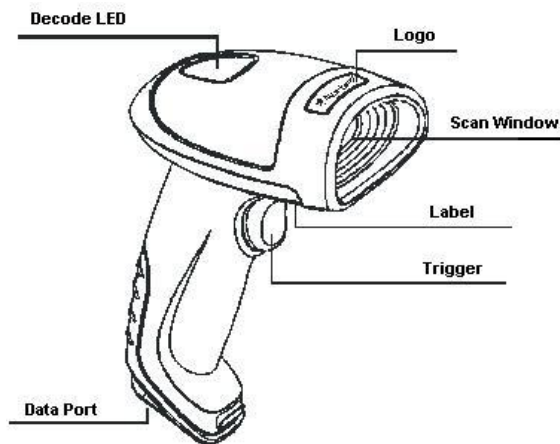

Fig. 1-1
1. Plug the RJ45 connector into the data port (see Fig.1-1) on the HR32 corded scanner.